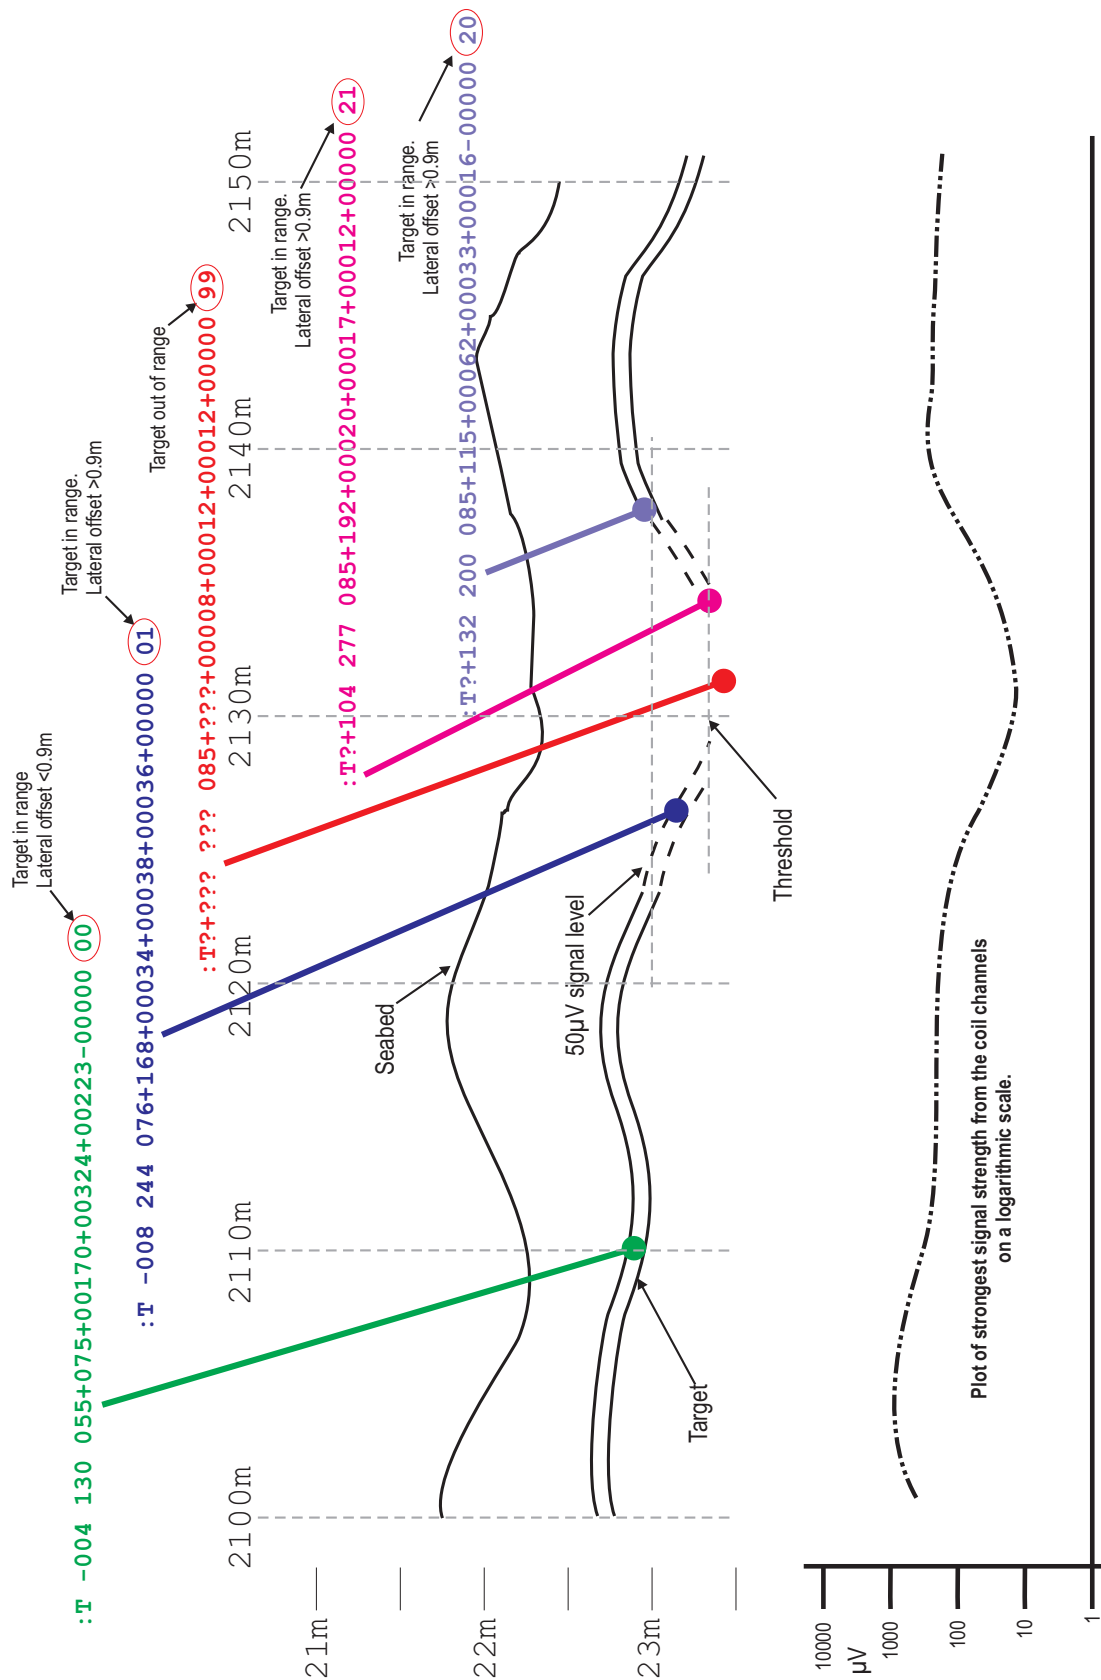

Figure 4-2: Example of a target profile modified using quality control information
- ❑ The data packets include, by default, the co-ordinates of the target, the raw signals data, and a quality control check-code. An example profile appears in Figure 4-2.